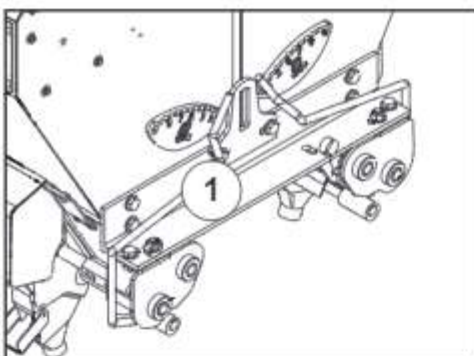

Fig 29
Put the bottom flap setting levers (1) (located on the LH end of the seed boxes) in position "1" for the front box and position "1" for the rear box. Refer Fig 29.